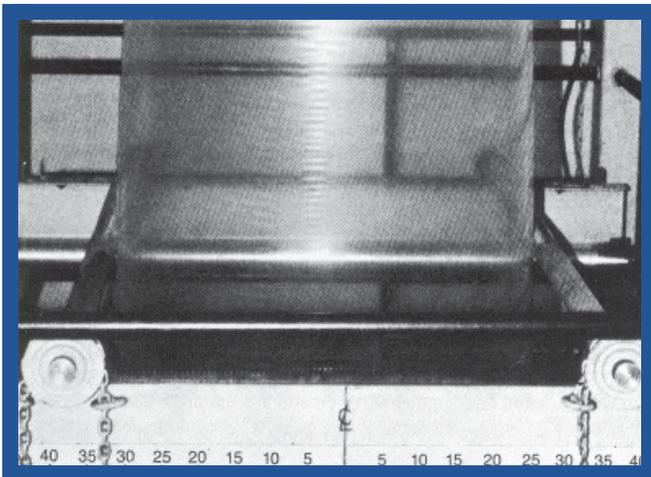

Figure 19: Graduation on beam aid adjustment of bubble stabilizer bars. Drag causes wrinkles.
2. Bubble stabilizer bars must be centered. Bubble stabilizer bars should be mounted so they can be adjusted symmetrically about the center line of the bubble. Off-center stabilizer bars can lead to pulled and stretched film. The bars' contact with the bubble should be vibration free and minimal. Vibration and excessive drag on warm, freshly-formed film can only lead to chatter marks, bagginess and wrinkles (**Figure 19**).